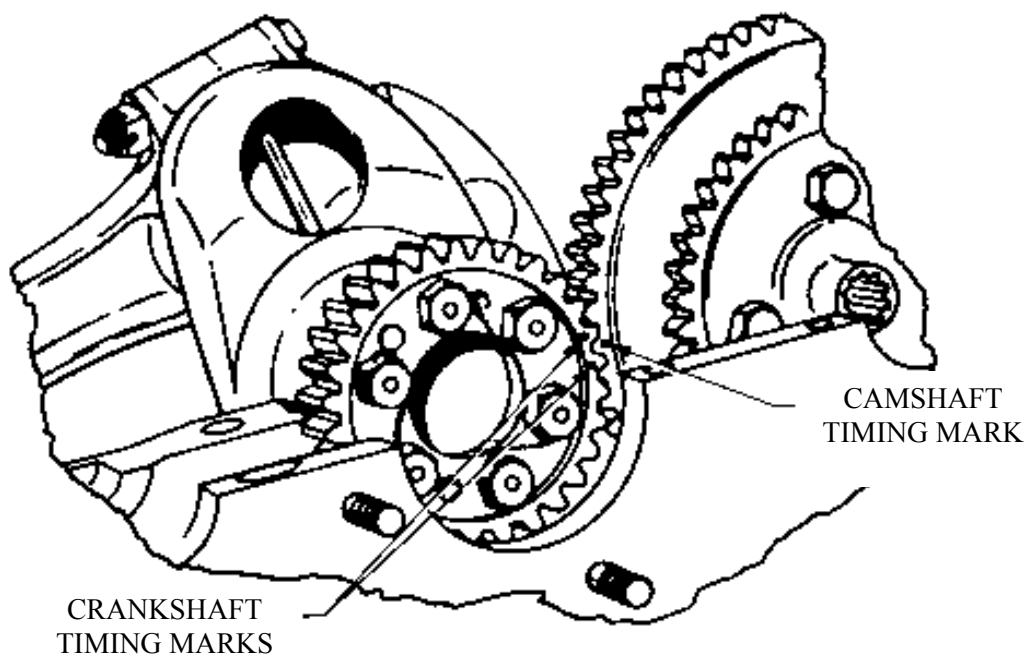

FIGURE 9
14. Verify correct cam to crank timing by positioning the number two cylinder piston at top dead center on the compression stroke. With the piston in this position, the timing marks must be aligned between the crankshaft and camshaft gears. Refer to Figure 9 on page 14. Remove and reposition the crankshaft gear if alignment of the timing marks is incorrect.